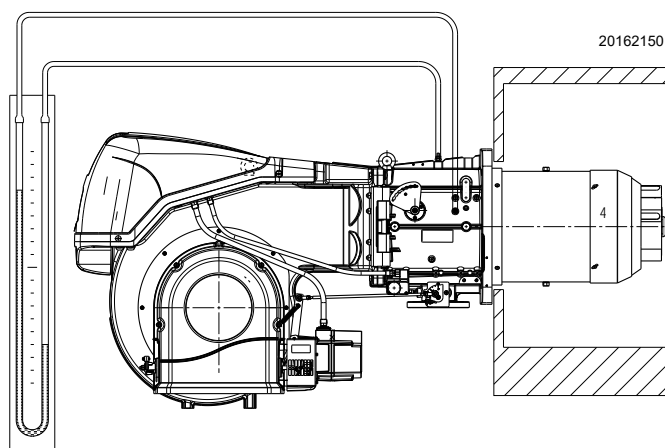

Fig. 24
- Fit a U-type pressure gauge or a differential pressure gauge (Fig. 24), with socket (+) on the gas pressure of the pipe coupling and (-) in the combustion chamber.
The arrival of gas at the pipe coupling is indicated by the U-type pressure gauge (Fig. 24).
A rough indication can be obtained from Tab. I on page 20, just read the gas pressure on the "U" pressure gauge, see Fig. 24 on page 22, and follow the indications.